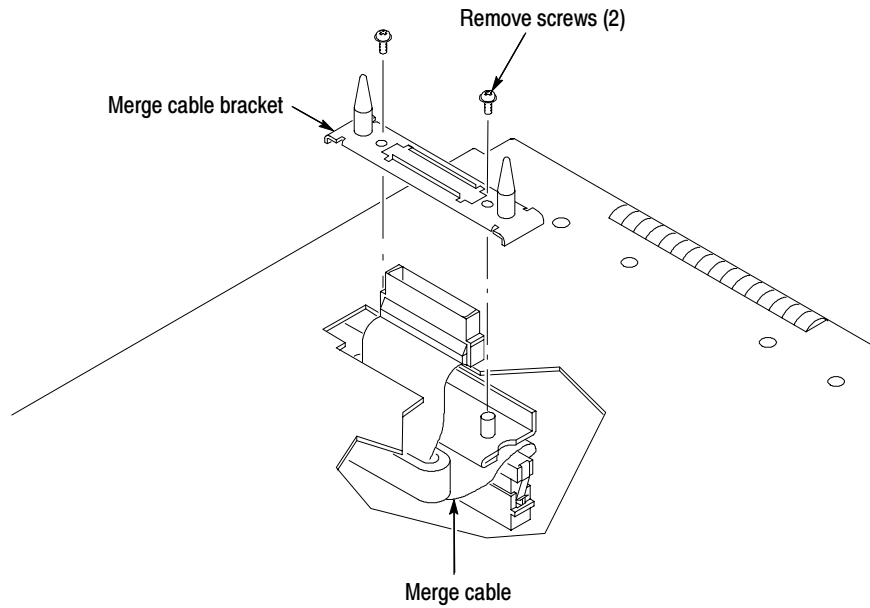

Figure 21: Feeding the merge cable through the cover
9. Replace the cover while feeding the merge cable through the hole in the cover (see Figure 21).